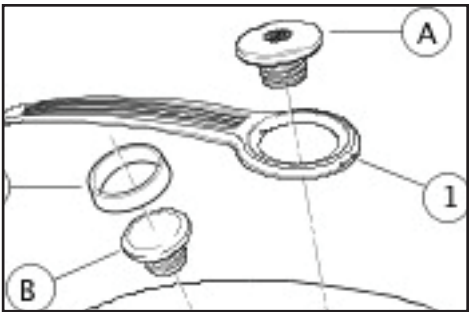

Figure 5. Service Parts: Chrome Fuel Tank Trim Panel (Console)
2. See the Figure 5. Remove the original fuel filler cap (A) from the tank and set it aside. Obtain a small diameter fuel filler cap (B) and screw it into the fuel filler opening.